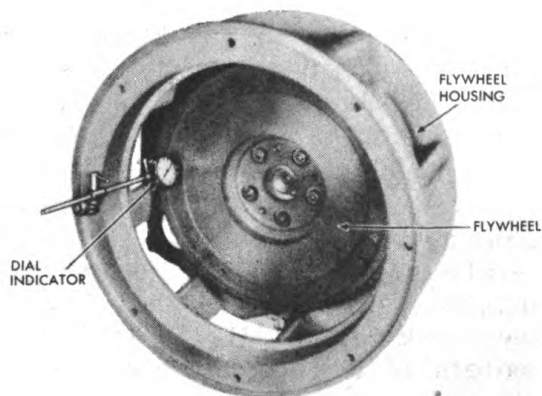

Figure 189. Checking Flywheel Runout.
28. Check the runout of the flywheel with a dial indicator, as shown in Figure 189. The maximum total indicator reading should not exceed .008". Check the housing bore as given in paragraph 33. See Figure 162.